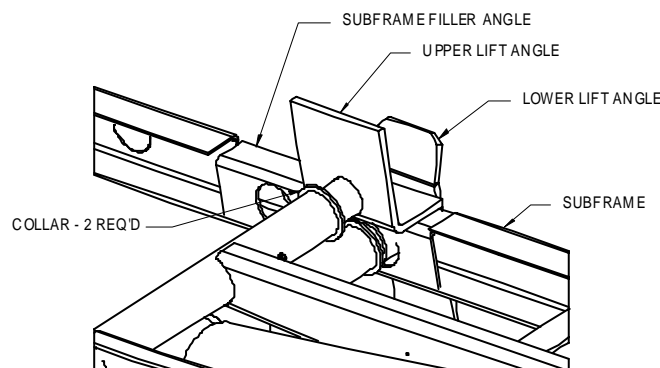

Figure 9
2. Raise the body to a moderate position and prop the body in a secured position. Cover any gas tanks and filler necks with a non-flammable material before welding. Weld the upper lift shaft assys. to the body channels all around each side. Slide the shaft collars against the upper pivot tube. Weld the outside edge of the collar to the upper lift shaft (2" dia.), See Fig. 9.